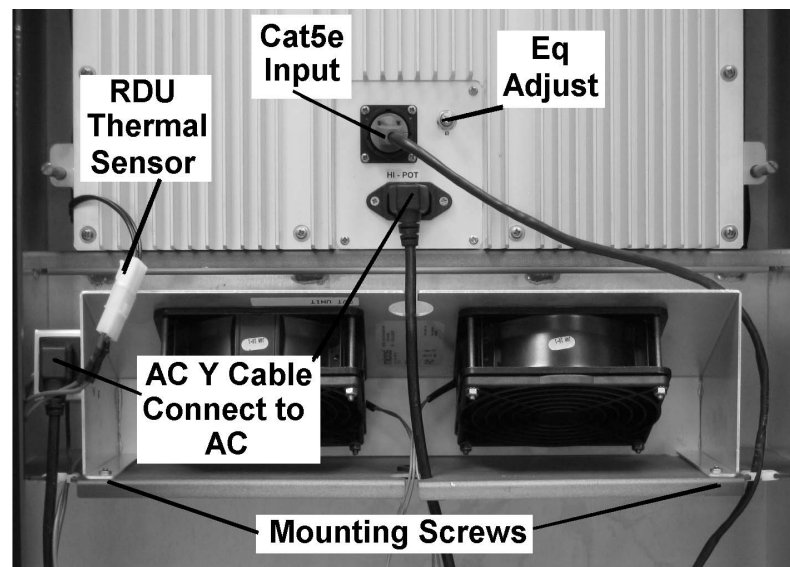

Figure 3-10: Installing the RDU and Fan Assembly
8. Figure 3-10, below, shows both the Pedestal Fan Assembly and Remote Display Unit installed in the Pedestal and connected with the AC "Y" cable.